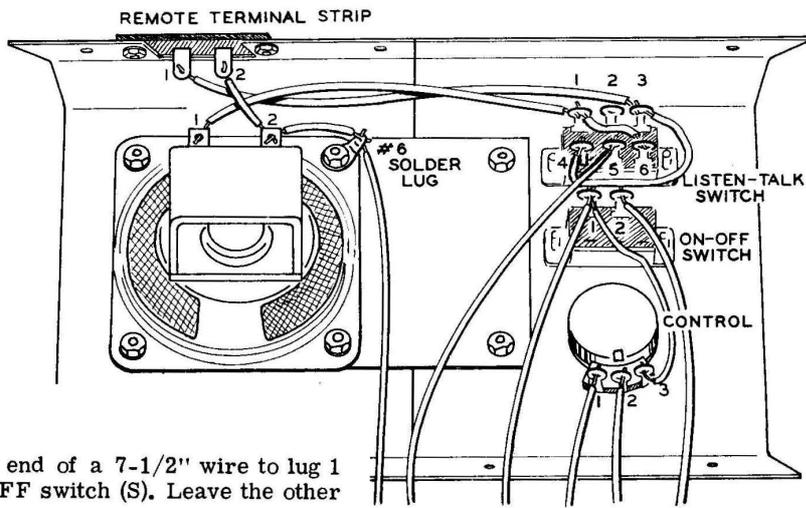

Figure 10H
Refer to Figure 10H for the following steps. Route each of the following hookup wires as shown.
- () Remove the volume control knob from the shaft and remove the 100 K Ω volume control from the front panel. Save the hardware. Install the 5000 Ω volume control and position it as the 100 K Ω control was. See Figure 10H. Reinstall the volume control knob.
- () Connect a 6" wire from lug 1 of the remote terminal strip (S) to lug 3 of the LISTEN-TALK switch (NS).
- () Connect a 2-3/4" wire from lug 3 (S) to lug 4 (S) of the LISTEN-TALK switch.
- () Connect a 1" wire from lug 6 (S) to lug 1 (NS) of the LISTEN-TALK switch. Bend the lugs of this switch outward slightly, if necessary, to keep this wire from touching other wires or lugs.
- () Connect a 5" wire from lug 1 of the LISTEN-TALK switch (S) to lug 1 of the speaker (S).
- () Connect a 1" wire from lug 2 of the remote terminal strip (S) to lug 2 of the speaker (NS).
- () Connect a 1-1/2" wire from lug 2 of the speaker (S) to the #6 solder lug (NS).
- () Connect one end of a 6-1/2" wire to the solder lug (S). Leave the other end free.
- () Connect a 2-1/2" wire from lug 3 of the VOLUME control (S) to lug 1 of the ON-OFF switch (NS).